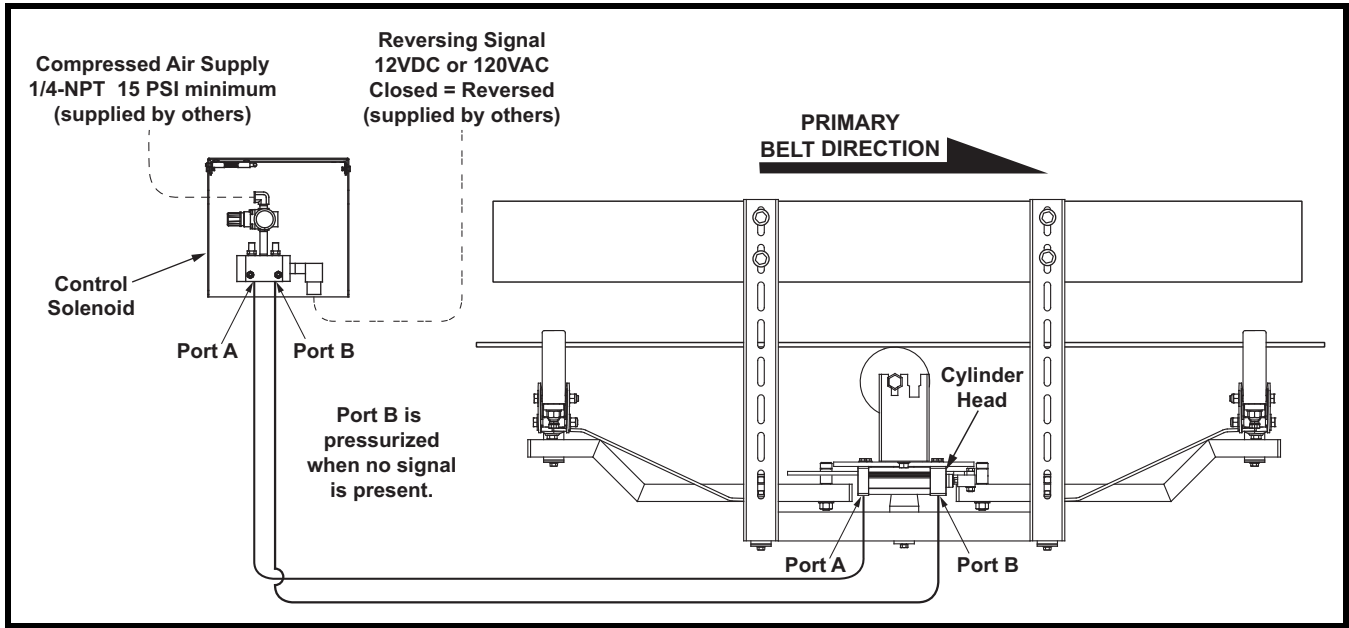

Figure 8. Air Cylinder Controls
Air cylinder controlled switching mechanism available. See Figures 8 and 9 for air cylinder switching mechanism installation orientation.
4. Install air supply line to control solenoid as shown in Figure 8.